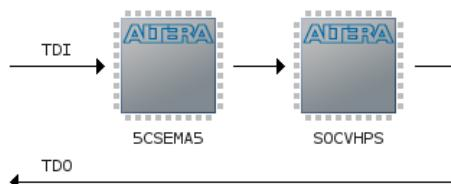

Figure 9-22. JTAG Scan Chain
You should now see 2 devices on the JTAG scan chain, as shown in Figure 9-22.
46. Right-click on the “5CSEMA5” device shown in Figure 9-22 and choose “Edit > Change File”. Then, select “DE1_SoC_demo/hw/quartus/output_files/DE1_SoC_demo.sof” through the file browser.